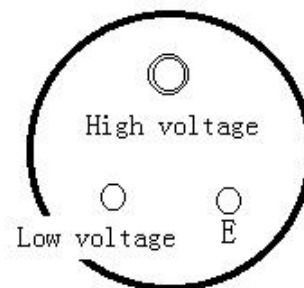

Figure 16 Connection of standard capacitor
D. See Figure 16
- D. See Figure 16